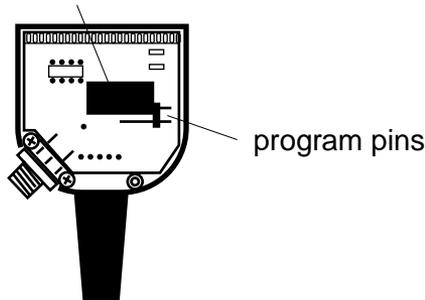

figure 7: Shorting block position
Before configuring AccuPAR to receive or transmit data, the shorting block on the RS-232 circuit board must be in the proper place. To check this, open the cover on the cable. You will see a black connector and two pins. This black connector is the shorting block. To download data to a computer and during normal use, the shorting block must be on one pin only. To install the operating program, this shorting block must be on both pins. Having the shorting block on two pins locks the programming function. To move the shorting block, slide it up and then put it back on in the desired position (see figure 7).
opening it up (see fig. 7 above). Make sure your cable is connected to the correct COM port.
1. Connect the PC to the instrument with the RS-232 cable. The cable's shorting block should be on both program pins (shorting block and program pins are on the cable's serial port circuit board; see fig. 7).